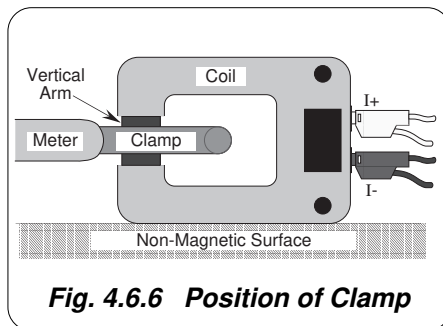

Fig. 4.6.6 Position of Clamp
- *Fig 4.6.6.* With the coils located on a non-magnetic surface (not the work mat, as it has a steel core), place the clamp in position so that it surrounds the vertical arm of the coil. Keep the clamp mid-way up the vertical arm, and away from the corners.